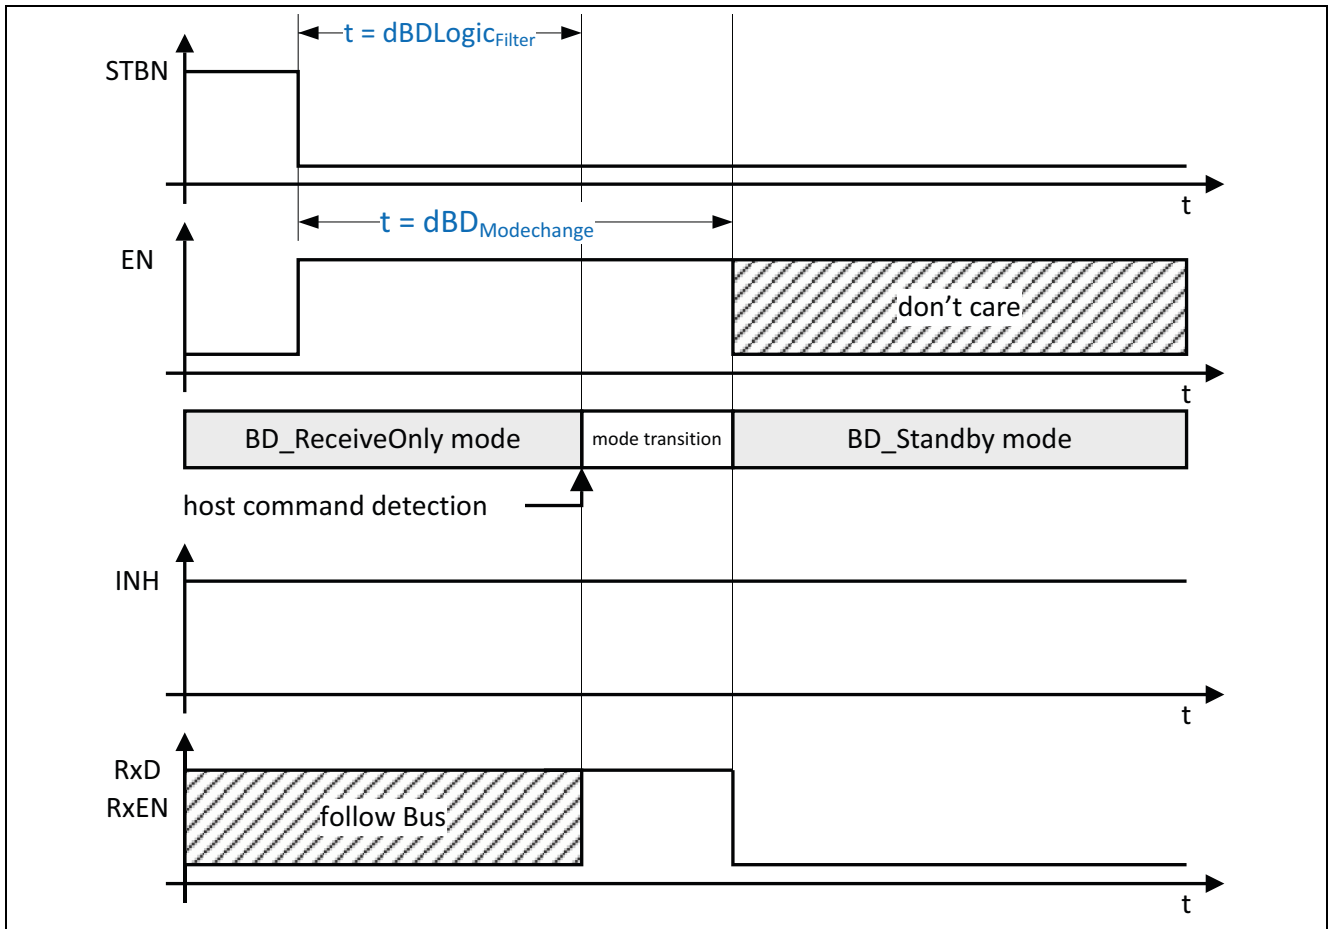

Figure 34 Changing over to BD\_Standby, with an active wake-up flag
- 10) The BD\_GoToSleep command cannot be executed while the wake-up flag is active (see Figure 34). The TLE9221SX changes over directly to BD\_StandBy mode.
Applying the BD\_GoToSleep host command to the TLE9221SX, while the wake-up flag is active, changes the operating mode directly to BD\_Standby mode. The RxD and RxEN outputs are set to “low” and indicate a previous wake-up event (see Figure 34 and Table 13).